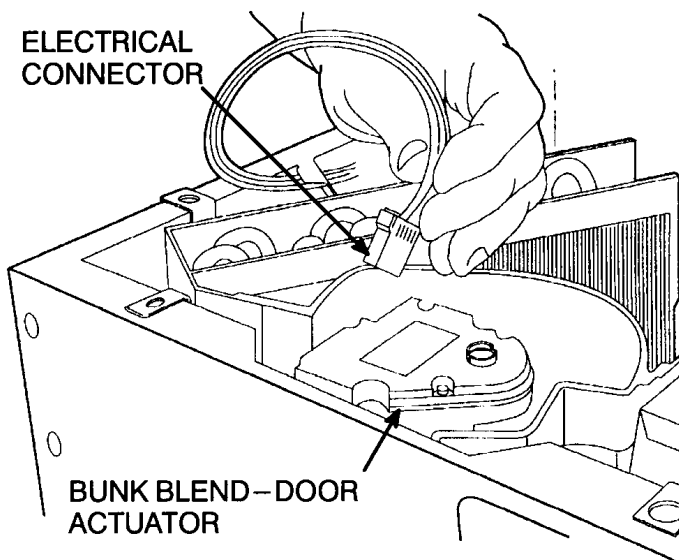

Figure 23 Actuator Connector
2. Disconnect the electrical connector from the actuator (Figure 23).
3. Connect the electrical connector to the actuator (Figure 23).
5. Plug the electrical connector into the actuator (Figure 23).